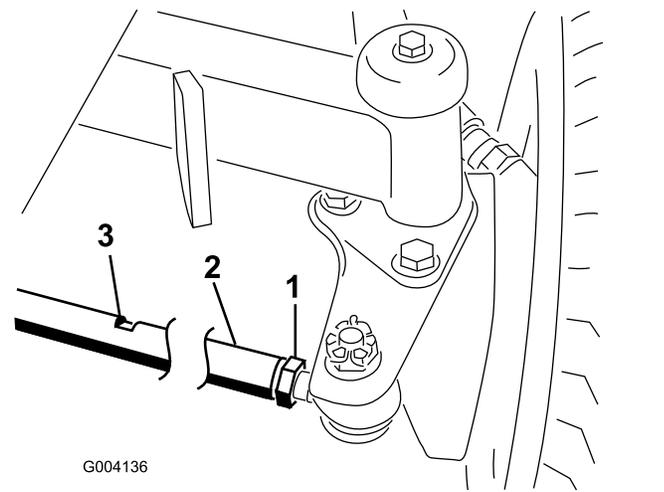

Figure 92
1. Loosen the jam nut on each end of the tie rod (Figure 92).